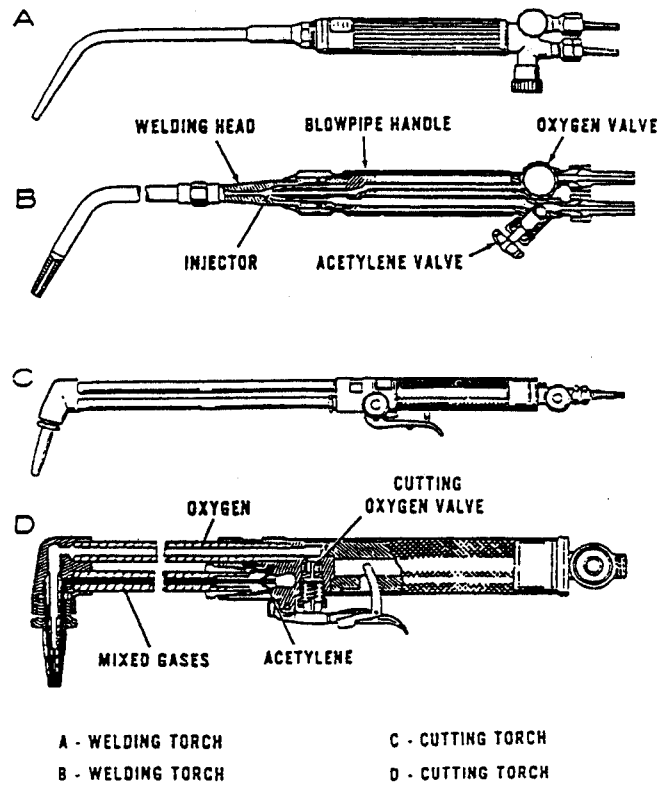

Figure 3-8 Welding and Cutting Torches
- (5) Never use oil or grease on a regulator. A special lubricant sometimes is applied to equipment. The only lubricant that should be used is that specified by the manufacturer. Use it only when indicated in manufacturer's instructions.
- (7) If a leak is suspected do not use the equipment. Refer to paragraph 11 of this section.
- (8) Regulators should be repaired by qualified, trained mechanics. Only manufacturer's standard parts are to be used.
- (9) Do not attempt to remove the regulator from its cylinder without first closing the cylinder valve.
- g. To adjust the working pressure correctly on a regulator, open the torch needle valve and set the gas flowing. The adjusting screw is then turned until the desired pressure is shown on the gauge. If the pressure is adjusted with the valve closed, it will not be maintained when the torch is placed in operation. The pressure will fall, requiring further adjustment. Especially in cutting, where heavier oxygen flows are involved, the cutting oxygen pressure must be adjusted with the cutting torch high pressure valve momentarily held open. Unless this is done, satisfactory results cannot be obtained. Never adjust the oxygen pressure with the acetylene valve open (See **Figure 3-8.**)